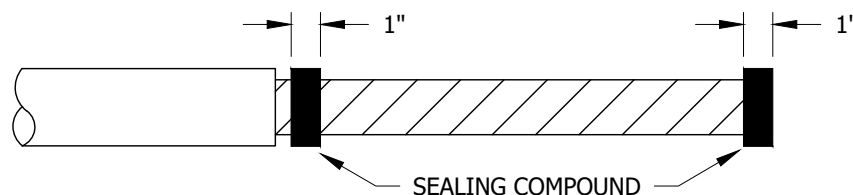

FIGURE 3 (H)
- C. WHEN USING END CAPS OVER CONCENTRIC NEUTRALS, IT IS NECESSARY TO APPLY A PAD OF SEALING COMPOUND OVER THE END OF THE CABLE AND AT THE JACKET CUTBACK TO ENSURE AN ADEQUATE WATER SEAL (SEE FIGURES 3 AND 4).